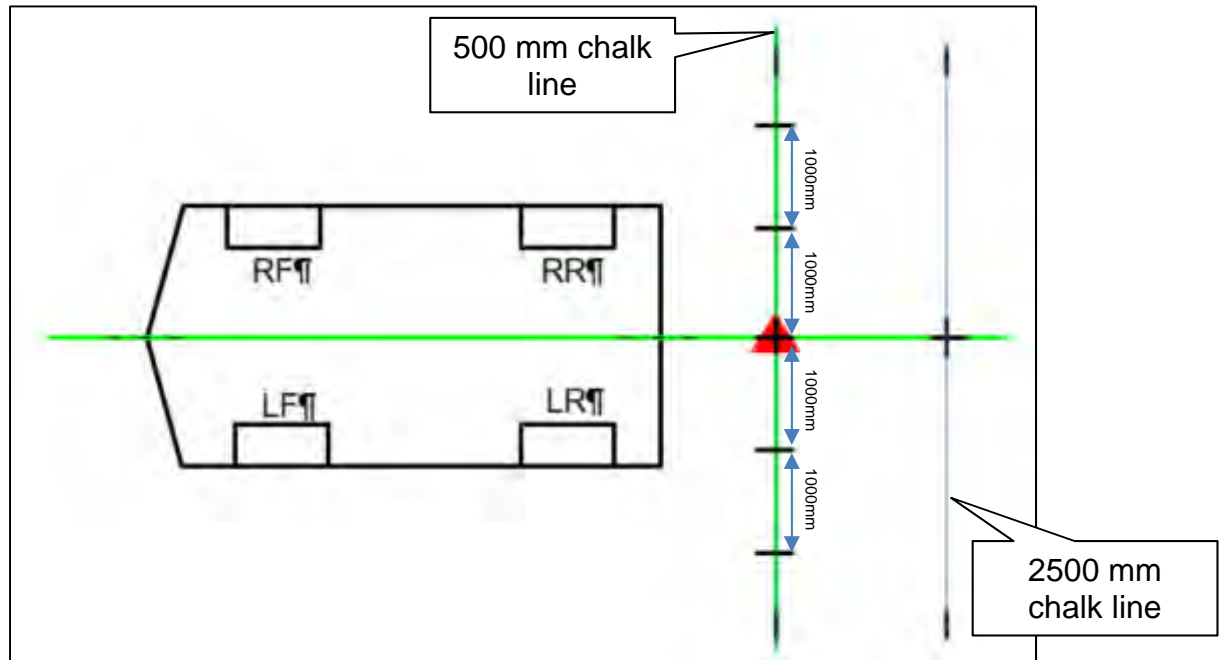
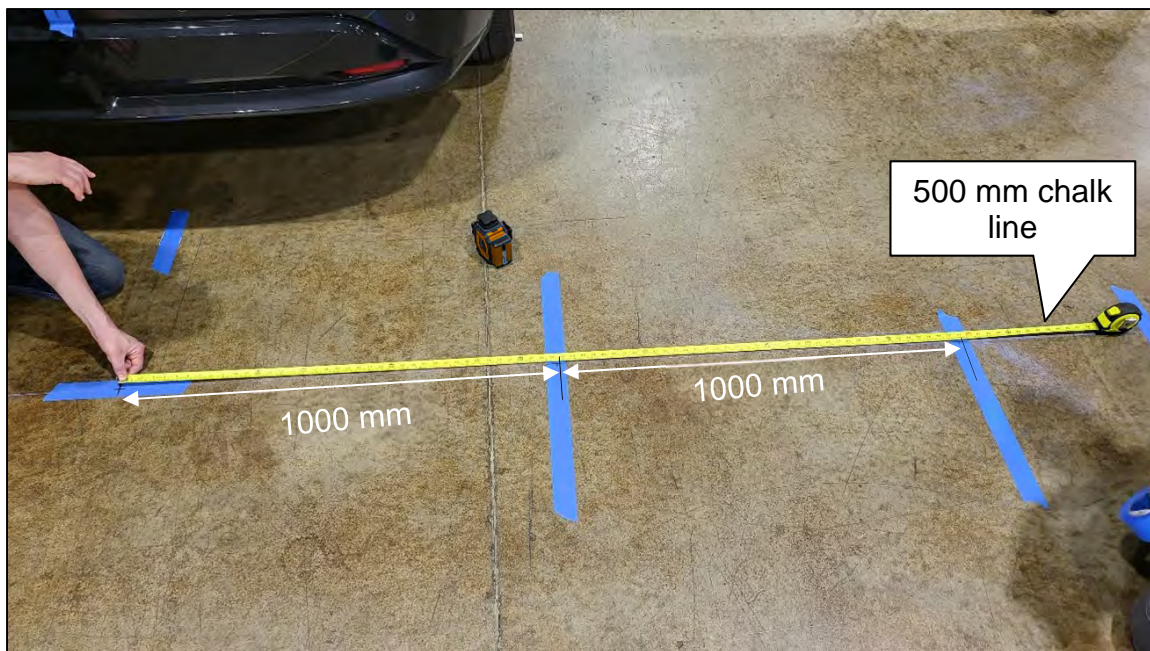

Figure 84
Figure 85
58. Measure and mark 1000 mm increments, as shown in Figure 84 and Figure 85.